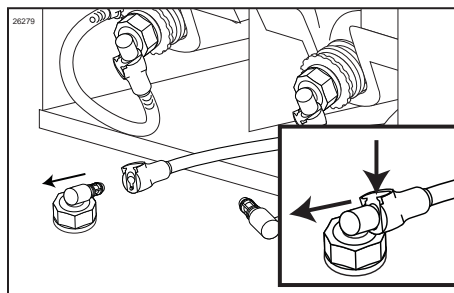

Figure 65
13. Press CANCEL ENTRY to stop the flow of sanitizer solution and disconnect the Syrup Bag Adapter from the Pump Flush Adapter. (See Figure 65.)